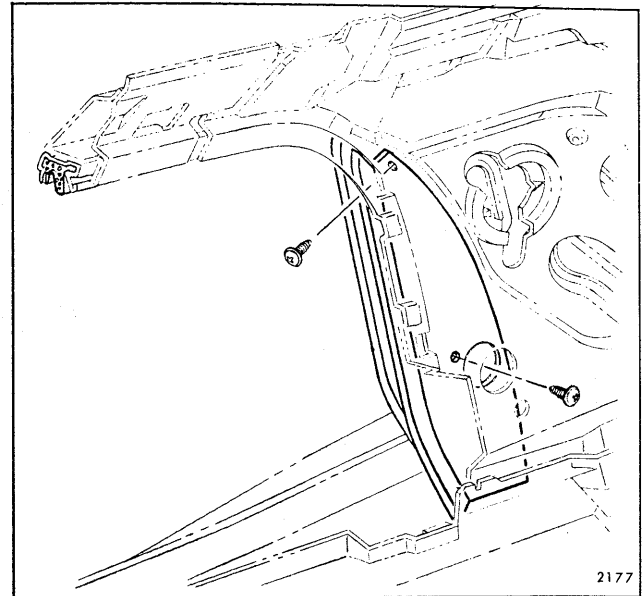

Fig. 8-64—Rear Quarter Window Glass Run Channel - "B-47" Style
2. With window in full-down position, remove screw securing run channel to rear quarter extension panel (Fig. 8-64).
3. Remove screw inserted through forward end of run channel into side roof rail (Fig. 8-64) and remove run channel from body.